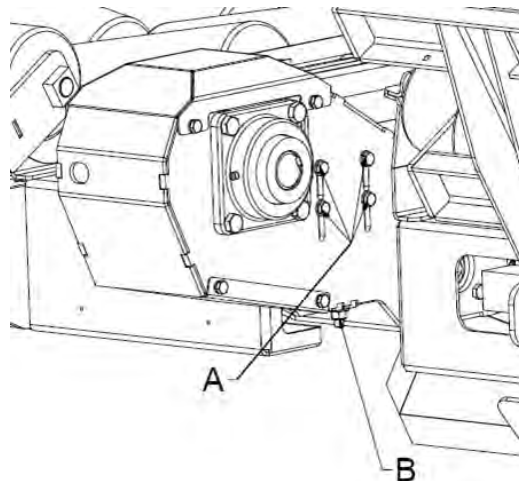

Figure 52 — Adjusting the Pusher Transmission Chain Tension
1. Loosen the four bolts on the side of the transmission (A, Figure 52).
2. Tighten the nut on the tension bolt underneath the transmission (B, Figure 52) until the correct tension is reached.
3. Tighten the four bolts on the side of the transmission (A, Figure 52).